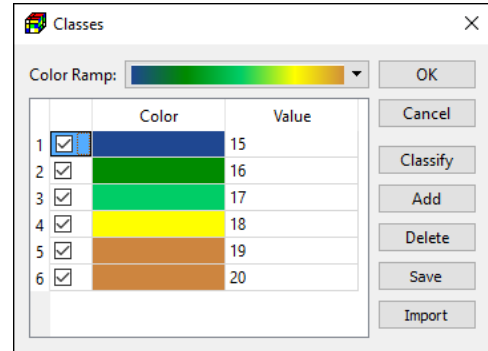

Figure 160. The Classes dialog box
- **Contour Levels:** The contour levels can be defined by clicking on the  button to open the Classes dialog box (Figure 160).